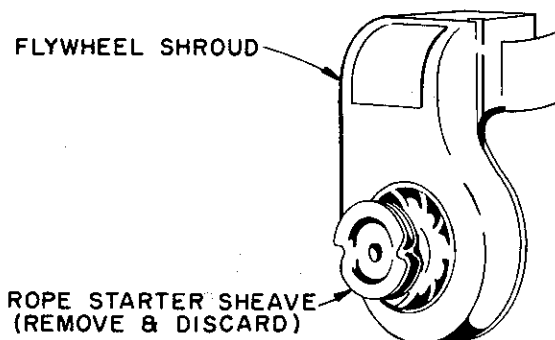

FIG. 1
- A. With reference to Fig. 1, remove and discard rope starter sheave, but retain 5/8 inch lockwasher for use in mounting drive cup to crankshaft.